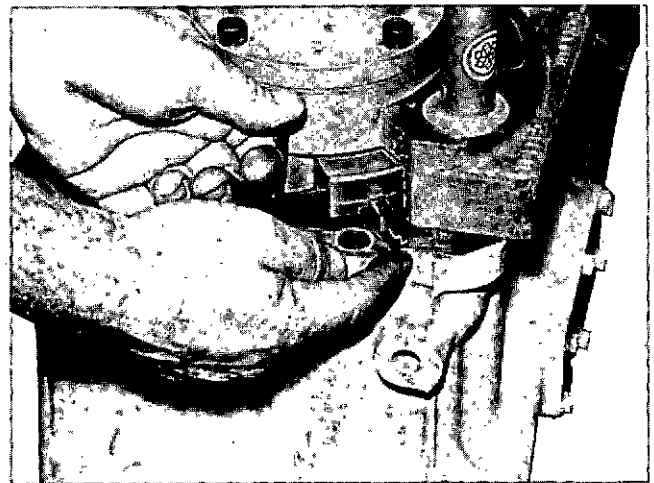

Fig. 1-1-40, V40177. Preparing to install tool bit
12. Turn the tool holder until the tool bit recess is at the large opening in the ST-1168-28 adapter plate. Fig. 1-1-40.